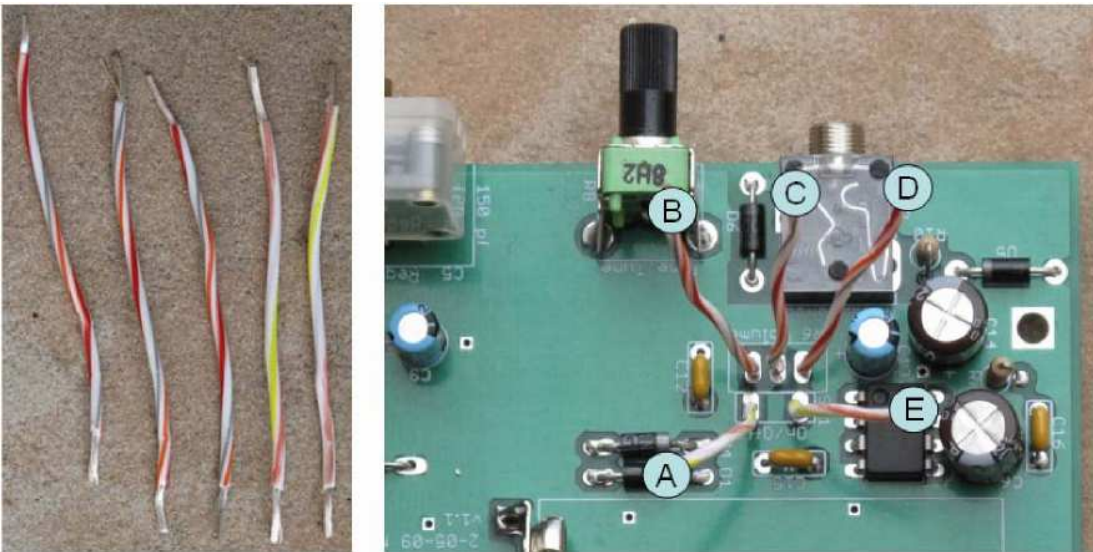

Figure 58. Cut five wires 2.5” in length and install on R6 pads
• Connect R6 lugs to the wires on the board. First connect the two outside wires, Wire A to R6 terminal A, Wire E to R6 terminal E as shown in Figure 58 and Figure 59. Next connect the center of the three wires, Wire C to R6 terminal C. Finally connect Wire B to R6 terminal B and Wire D to R6 terminal D.